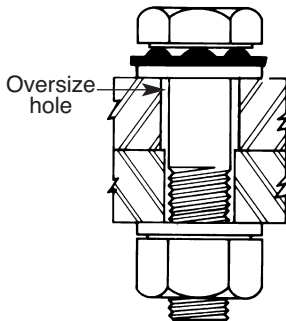

Figure 8b
*The use of flat hardened washers per the provisions of the *RCSC Specification* varies with the bolt strength, hole size and yield strength of connected steel and tightening method. For example, with a short-slotted or oversized hole under the bolt head add a hardened flat washer between the DTI and the hole, and, if the bolt is an A490M and larger than M24 the hardened washers must be at least 8.0mm thick. (For a long-slotted hole, an external cover plate of sufficient size to completely cover the slot should be provided at a minimum of 8mm thick). (Figure 8b)